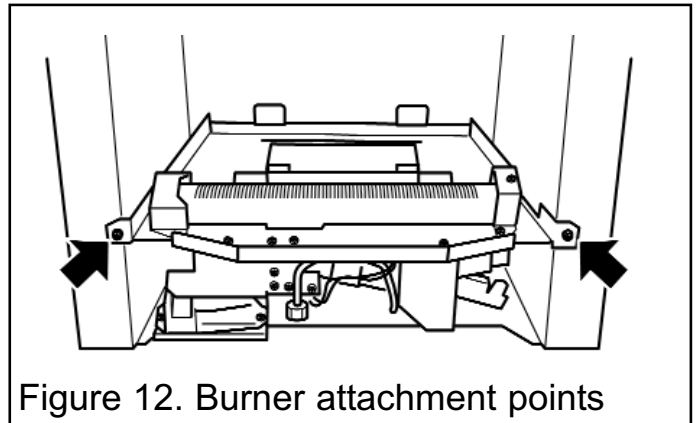

Figure 12. Burner attachment points
1. Detach the burner unit from the convection box by removing two screws (See figure 12). Lift the burner unit clear.